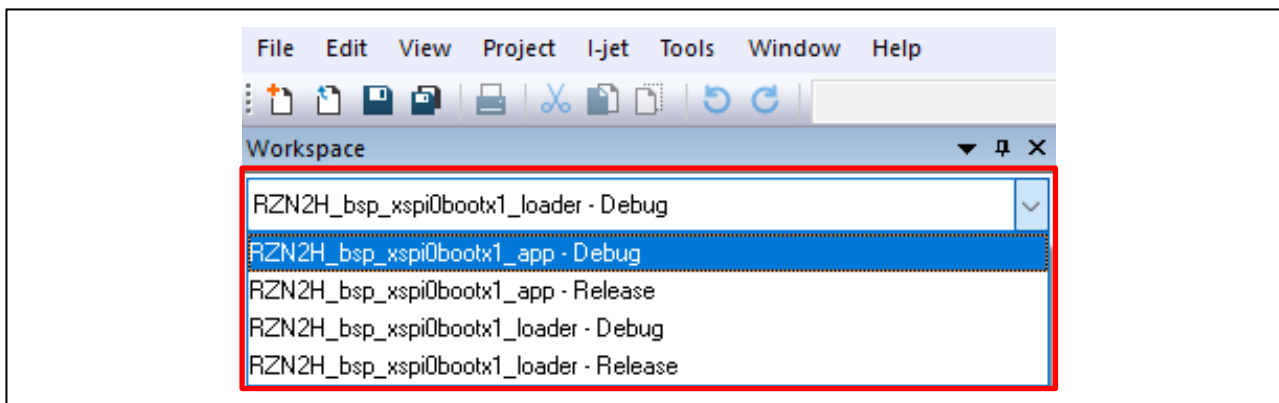

Figure 5-1 Project selection
2. Select "RZN2H_bsp_xspi0boot1_app Debug" project in Workspace box as Figure 5-1.